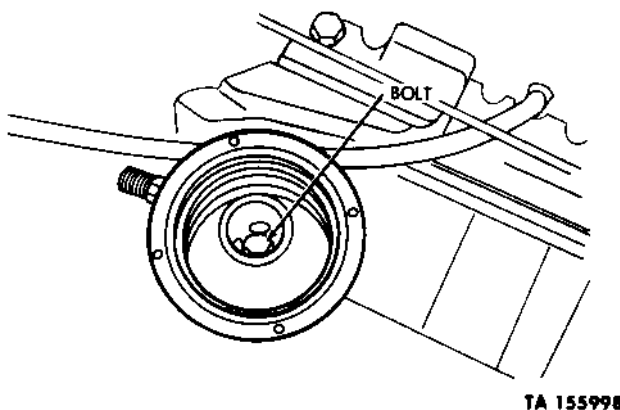

Figure 2-50. Removing crankcase breather cup.
(2) Unscrew bolt (fig. 2-50) securing cup to bracket and remove cup. Pry gasket off bottom of cup.
(3) Position the gasket to the bottom of the cup, and secure the cup with the bolt (fig. 2-50). Tighten the bolt.